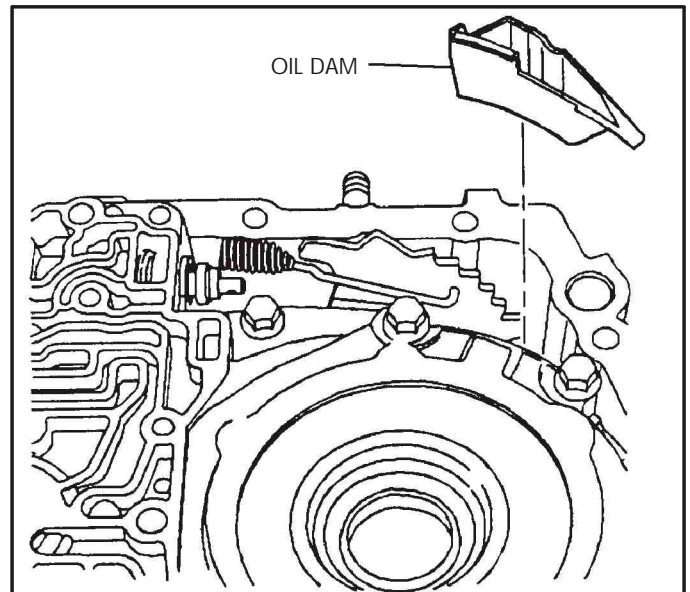

Figure 60
11. Remove the oil dam from the transaxle, as shown in Figure 60.